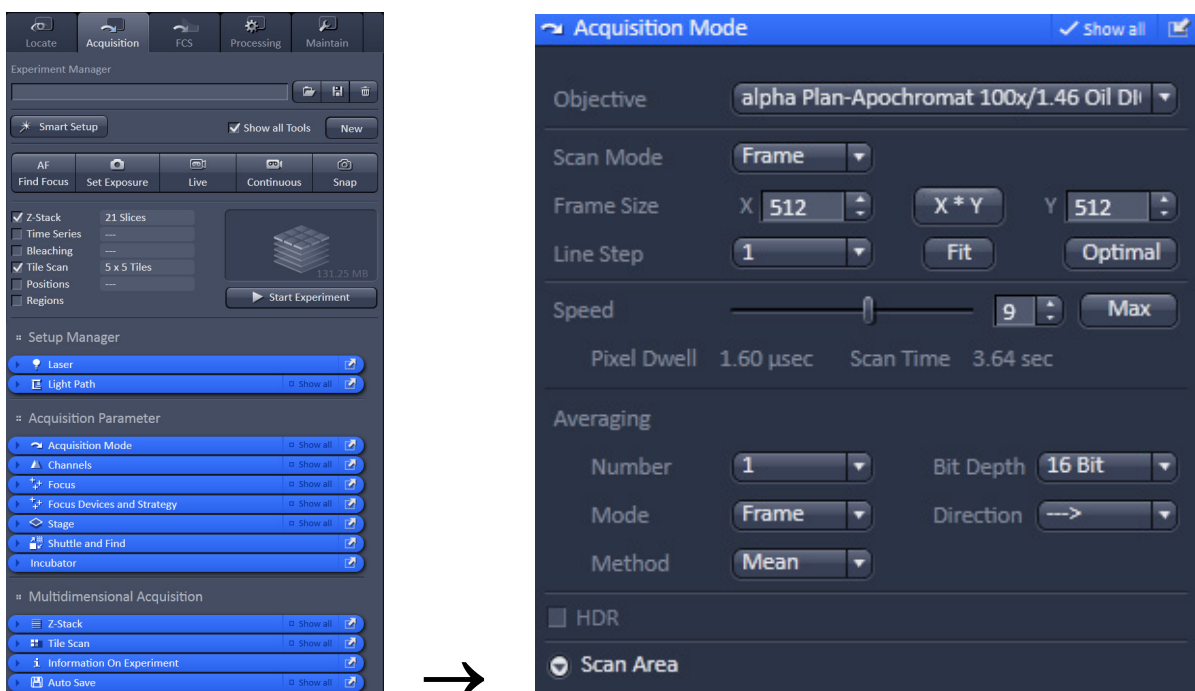

Fig. 21 Acquisition Mode tool
- Select the **Acquisition Mode** tool from the **Left Tool Area** (Fig. 21).
- Use the **Scan Speed** slider in the **Acquisition Mode** tool (Fig. 21) to adjust the scan speed.
- Select the dynamic range 8 or 12 Bit (per pixel) in the **Bit Depth** pull-down in the **Acquisition Mode** tool (Fig. 21).